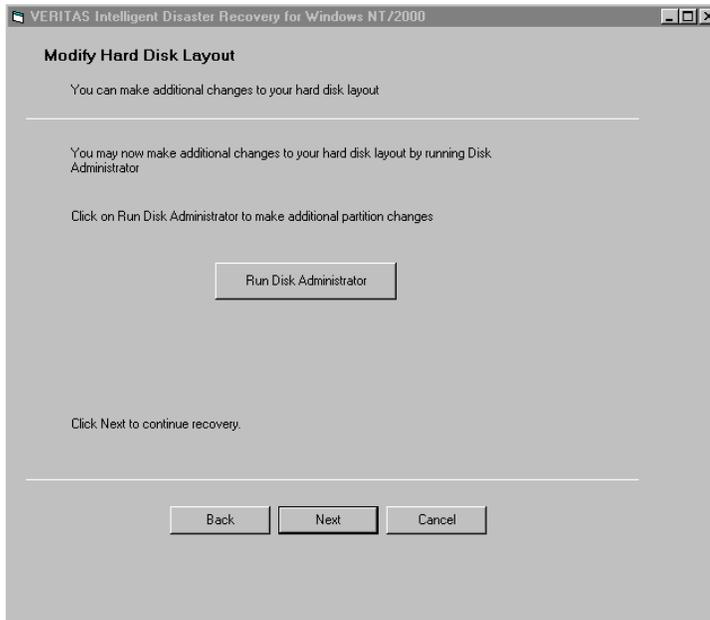

Figure 14: Modify Hard Disk Layout screen
4. Figure 14 shows the Modify Hard Disk Layout screen. This wizard screen allows the user to run the Disk Administrator program to make any additional partition changes to the system hard disk. Click Next to continue.